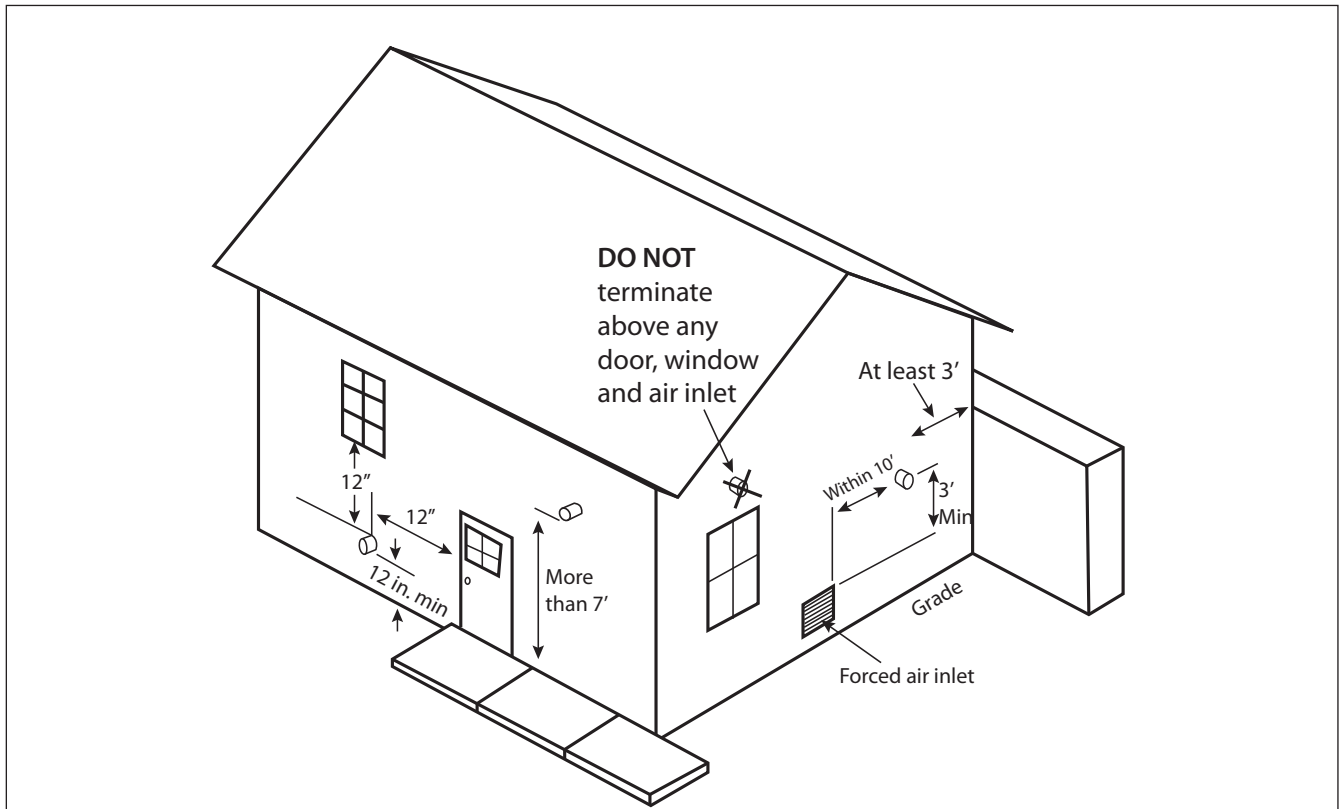

Fig. 2 - Termination Clearances of Direct Vent System
6. The vent termination must also maintain the following clearances, as shown in *Fig. 2 on page 13*:
6. The vent termination must also maintain the following clearances; as shown in *Fig. 2 on page 13*.